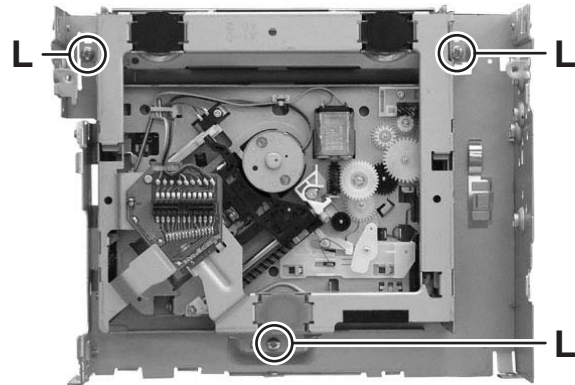

Fig.6
3.1.6 Removing the CD mechanism assembly (See Fig.6)